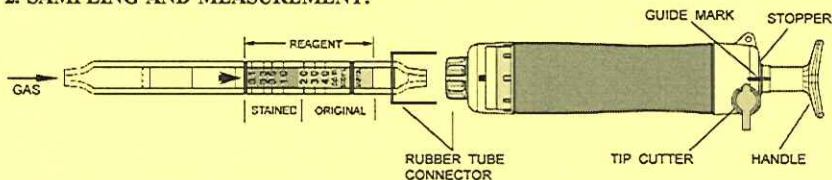

Fig.1
- ② Insert the detector tube into the aspirating pump securely as shown in Fig.1. (Arrow mark shall point to the pump.)
- ③ Align the guide marks on the shaft and stopper of the aspirating pump.
- ④ Pull the pump handle at a full stroke until it locks and wait for 1 minute or until the completion of sampling is confirmed with the flow indicator of the pump. (See descriptions about the flow indicator in the instruction manual of the pump.)
- ⑤ Push back the handle without removing the detector tube from the rubber tube connector so that air in the pump will be discharged perfectly. Then repeat the step ③~④ fourth more.
- ⑥ On completion of sampling, read the scale at the maximum point of the stained layer.
- ⑦ In case that the concentration is less than 0.1 ppm, push the handle without removing the detector tube from the inlet, and air in the pump will be discharged perfectly. Then repeat step ③~④ fifth more. And multiply the reading value by 1/2.
- ① Temperature; Correct the tube reading by following temperature correction table.